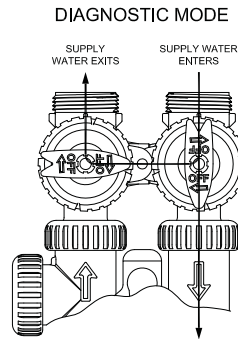

figure 3
3. Diagnostic Position: The inlet handle points in the direction of flow and the outlet handle points to the center of bypass valve, system water pressure is allowed to the control valve and the plumbing system while not allowing water to exit from the control valve to the plumbing. (see figure 3)
If using optional bypass **SLOWLY** turn bypass valve to **DIAGNOSTIC** position (See figure 3 on page 4) or slowly open inlet valve to allow water to slowly enter Softener.